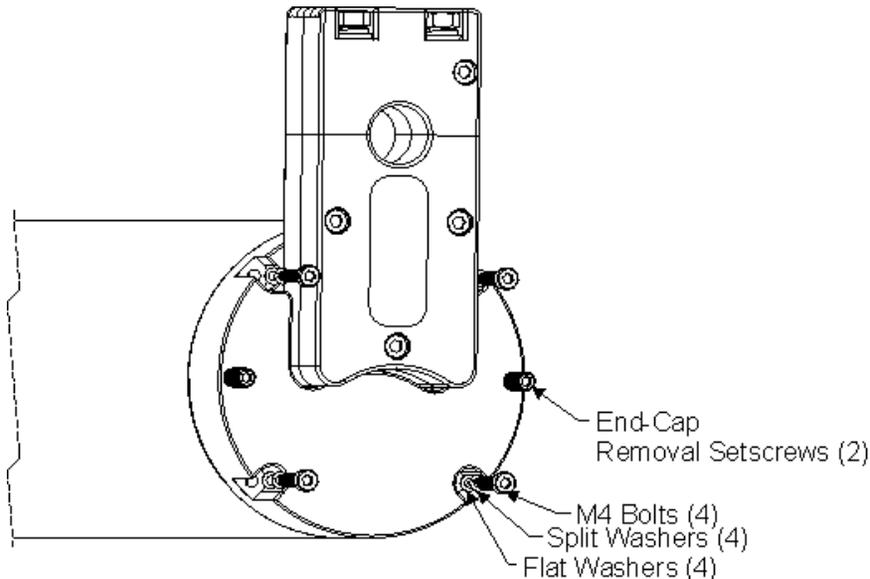

Figure 21. End Cap Mounting Hardware (Standard 750 Meter System)
- e. Begin threading both the End Cap Removal M6 setscrews in as shown in Figure 21 to back the end cap out of the housing (750 m DVS only).
- i. Examine the end-cap assembly nuts, bolts, and washers for corrosion; replace if necessary. Figure 21 shows the assembly order of the end-cap mounting hardware. All the hardware items are needed to seal the DVS properly.